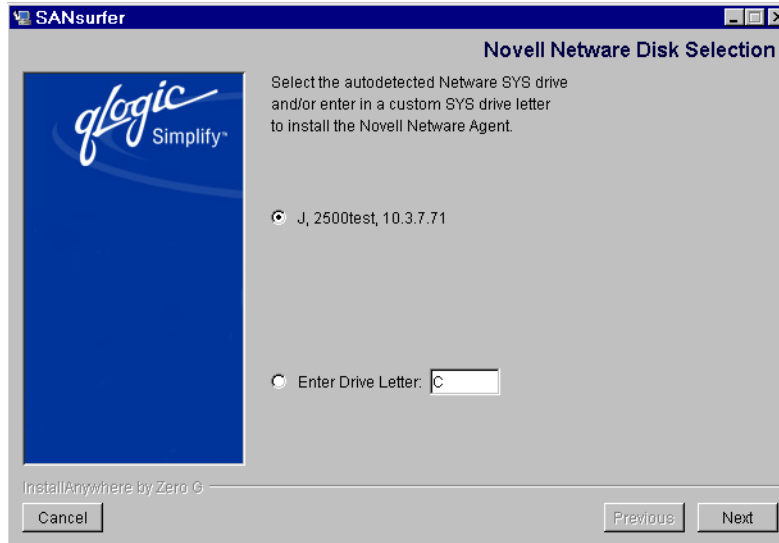

Figure 5-10. Novell NetWare Disk Selection Dialog Box
11. If you are installing NetWare, the **Novell NetWare Disk Selection** dialog box displays (see figure 5-10).
- a. As appropriate, select one or more autodetected drives. In figure 5-10, for example, you could click **J, 2500test, 10.3.7.71**.
- From the **Novell NetWare Disk Selection** dialog box, type the drive letter in the **Enter Drive Letter** box and then click **Enter Drive Letter**. In figure 5-10, for example, you could type **C** in the **Enter Drive Letter** box and then click **Enter Drive Letter**.